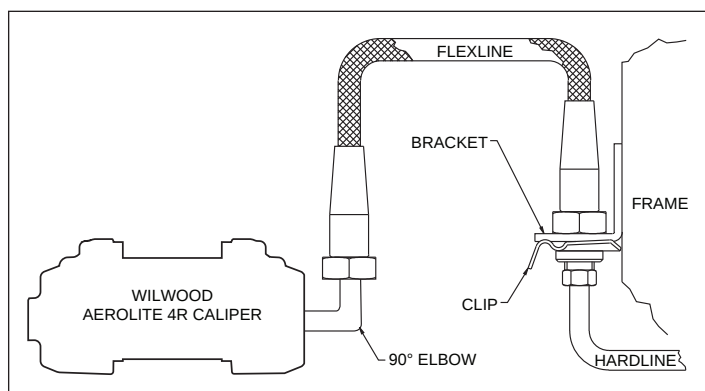

Figure 4. Brake Line Diagram
•**NOTE:** The caliper in this brake kit utilizes a 1/8-27 NPT pipe thread inlet. OEM rubber brake hoses generally cannot be adapted to Wilwood calipers. Install Wilwood's stainless steel braided flexline hose kit, part number 220-8177 for C-5, 220-9101 for C-6 (both sold separately), as shown in Figure 4. **NOTE:** The specified Wilwood hose kits may not work on all Years, Makes, or Models of the vehicle that this brake kit is applicable to, due to possible OEM manufacturing changes during the vehicle's production life. **Carefully route hoses to prevent contact with moving suspension, brake, and wheel components.** It is the installer's responsibility to ensure that all fittings and hoses are the correct size and length, that they are properly sealed, and that they will not be subjected to crimping, strain, or abrasion from vibration or interference with suspension, brake, or wheel components.